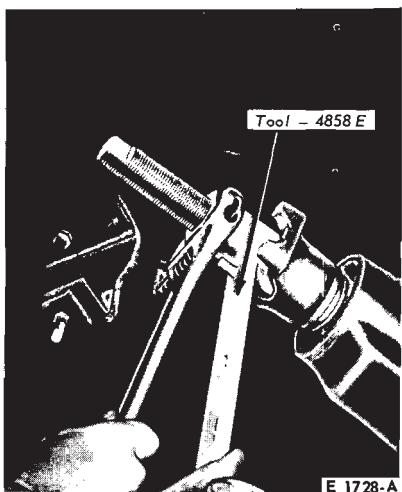

FIG. 13—U-Joint Flange Installation
8. Install the U-joint flange using the tool shown in Fig. 13.